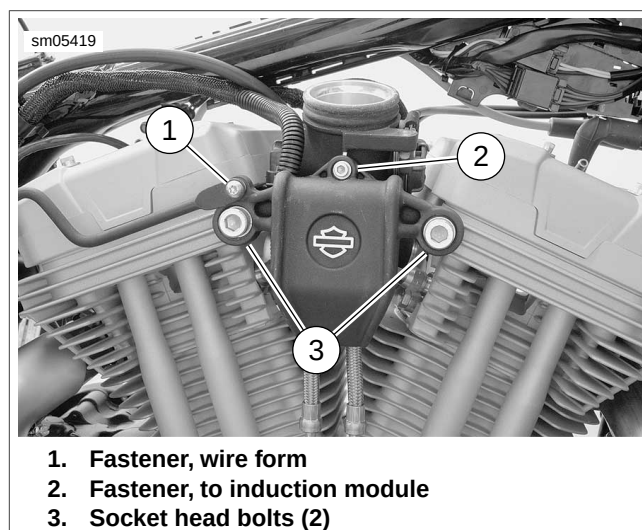

Figure 4-49. Induction Module Cover
4. See Figure 4-49. Remove socket head bolts (3), fastener (1) and fastener (2).
- e. TP sensor (7) connector [88].
13. See Figure 4-49. Install induction module cover. Secure TP sensor harness to cover during installation using a new cable tie with anchor. Install all fasteners finger tight before final tightening any. Tighten socket head bolts (3) to 20-